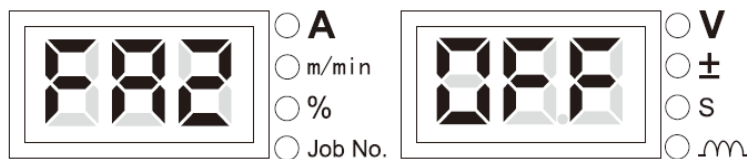

Figure 3-32 FA2 display interface
1. Access the internal menu, switch the knob on the control panel of the welder to **FA2**. The LED screens display the message shown in Figure 3-32.